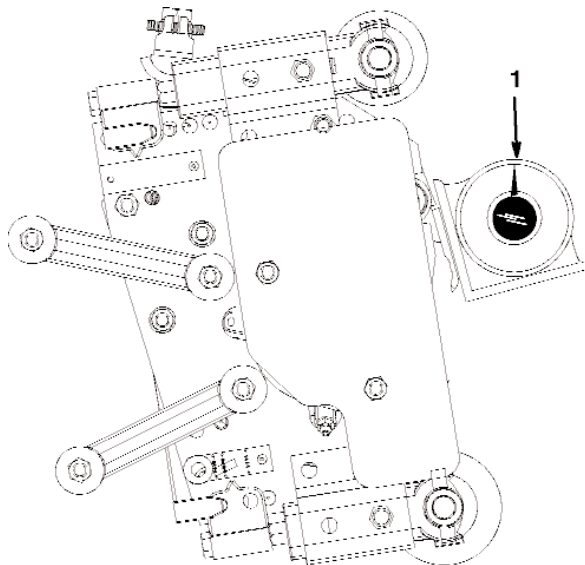

Figure 11
1. Place an angle indicator, Toro Part No. 99-3503, on the bedknife and record the bedknife angle (Fig. 11).